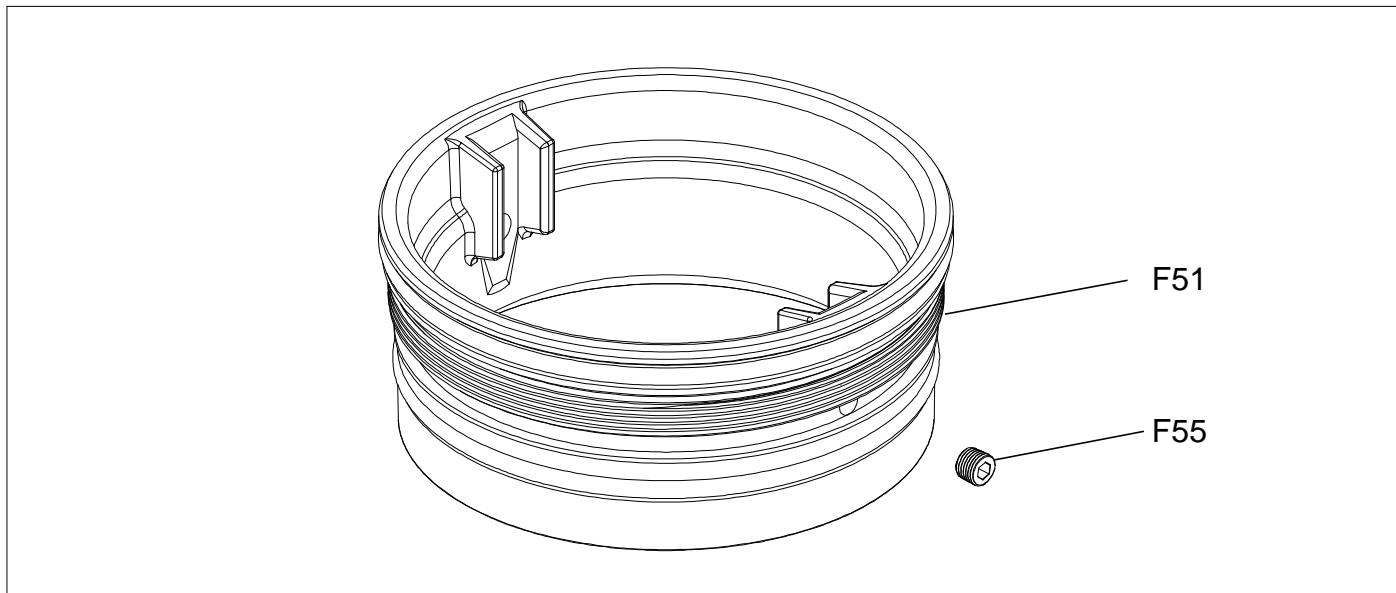

Fig. 2
2. After removing the main valve assembly, screw in two Brass Plugs (F55) into the Valve Seat Ring (F51) using a 3/16" hexagon key. (Fig. 2)